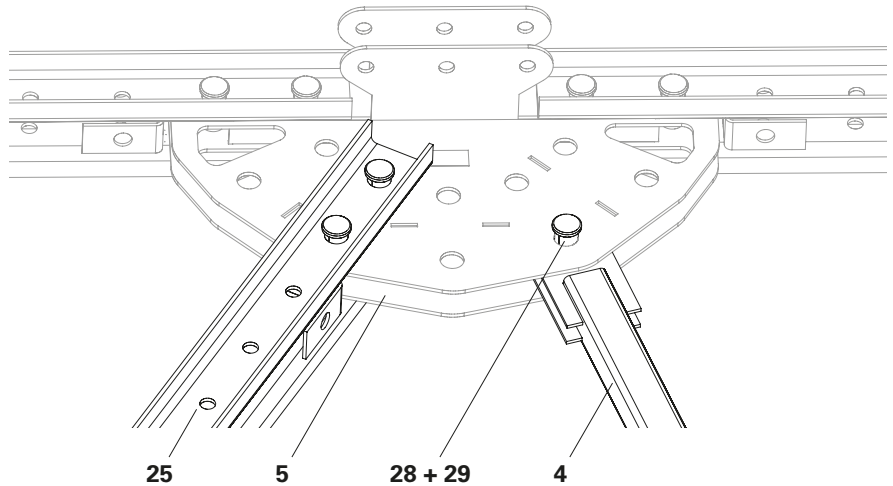

Fig. A2.10
2. Fix Steel Waler 262 (**25**) to the Chord Node ATG (**5**) using 2x fitting pins Ø 32 (**28**) respectively and secure with cotter pins 5/2 (**29**). (Fig. A2.10)
2. Fix the Truss Diagonal 262 (**4**) to the Chord Node ATG (**5**) using 1x fitting pin Ø 32 (**28**) respectively and secure with cotter pins 5/2 (**29**). (Fig. A2.10)